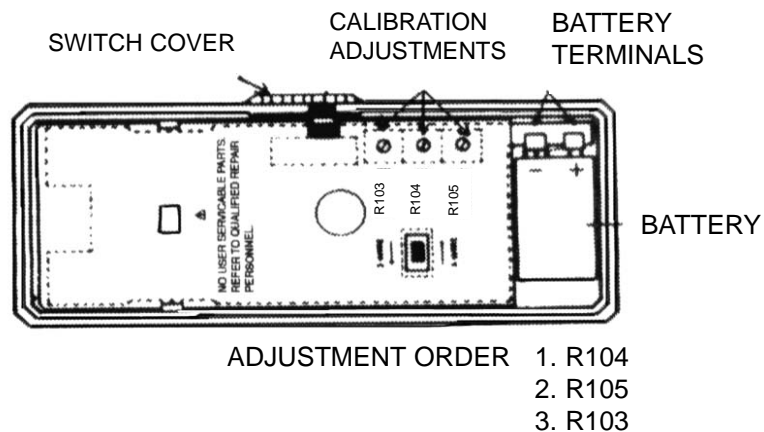

Figure 5. Calibration Adjustment Locations
5. Refer to Table 2. Calibration procedures are outlined there. Perform each step in the procedure in the order shown by setting the decade box to the precise value listed and then adjusting the associated calibration potentiometer for the required reading on the display. Potentiometer locations are shown in Figure 5.